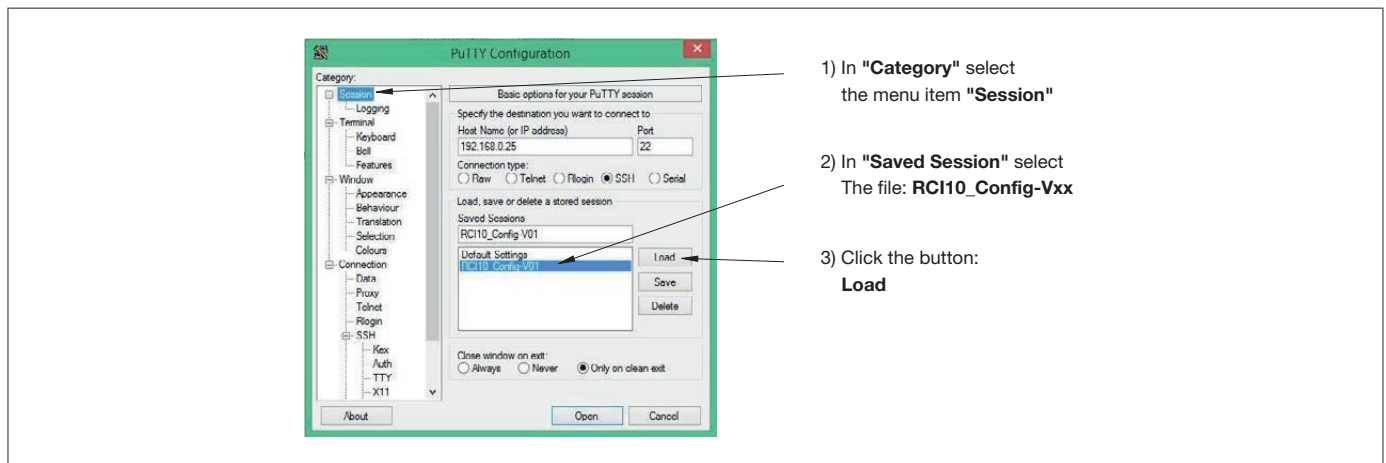

fig. 7: IP configuration ¹LePutty®
1. Start the programme by clicking on the programme icon ¹Putty®. Carry out the steps 1 to 3 on right side of fig. 7; IP configuration ¹LePutty®.
- Mark the menu item **Sessions** in »Category«, see fig. 7, IP configuration **1LePutty**® above.
If you changed the IP address of the R sub-assembly, you are no longer able to open the RCI10 SSH surface. For this purpose you have to enter the changed RCI10 IP address also in the ¹LePutty© programme, see ¹LePutty© window, fig. 7, IP configuration¹LePutty© »Host Name (or IP address)«. Save the change with button »**Save**« in the ¹LePutty© window.